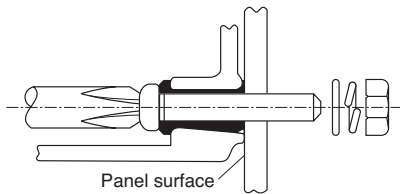

Figure 2
2. Thrust the screws into panel holes and secure the screws with nuts (Figure 2).